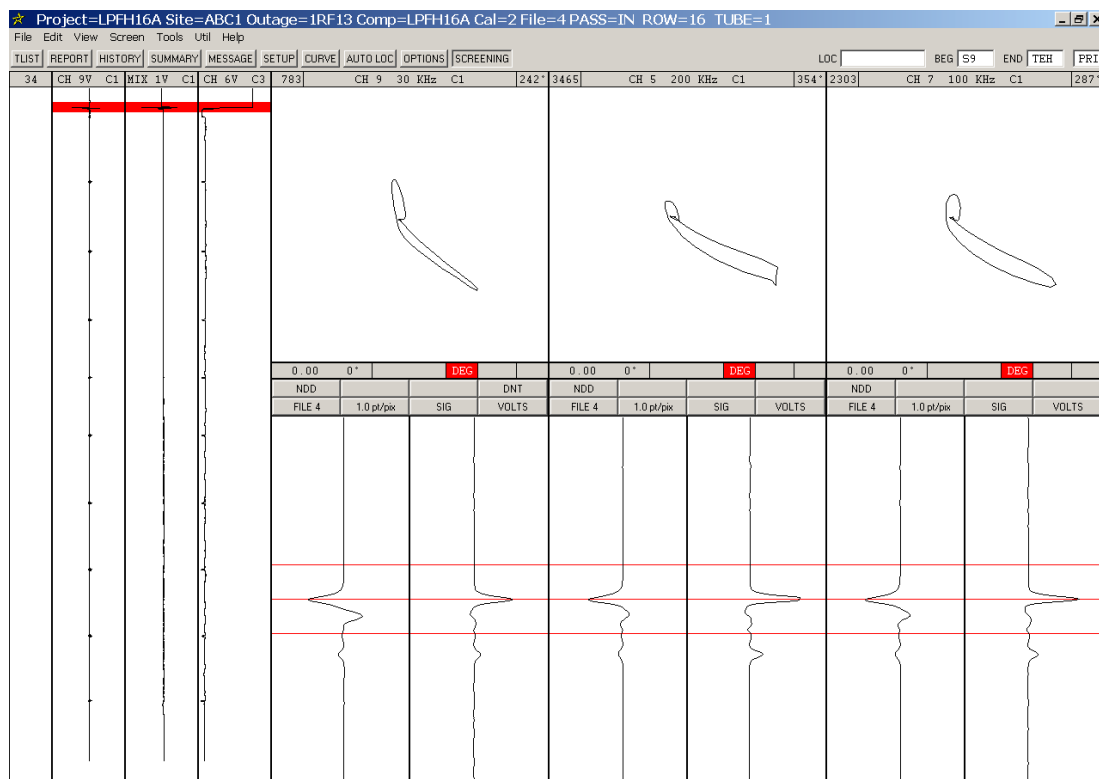

Figure 1-26. Auto-locate - Identifying the Tube End
- STEP 4:** Adjust the **Span** and expanded window of **CH 9** so that the tube end signal is clearly visible in the Lissajous as shown in Figure 1-26.